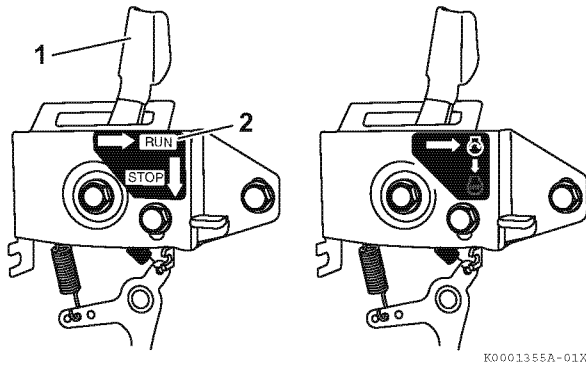

Figure 12
2. If your engine speed control is similar to **Figure 12** slide the engine speed control lever (1, **Figure 12**) to the RUN position or (2, **Figure 12**).